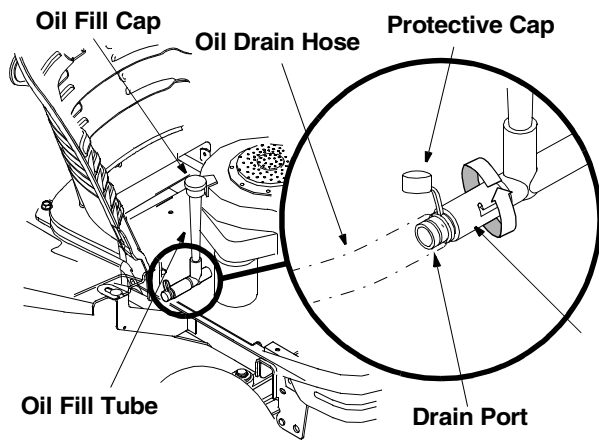

Figure 12
- Unscrew oil fill cap and remove dipstick from the oil fill tube. See Figure 12.
- Pop open the protective cap on the end of the oil drain valve to expose the drain port. See Figure 12.
- Push the oil drain valve in slightly, then rotate counterclockwise and pull outward to begin draining oil. See Figure 12.